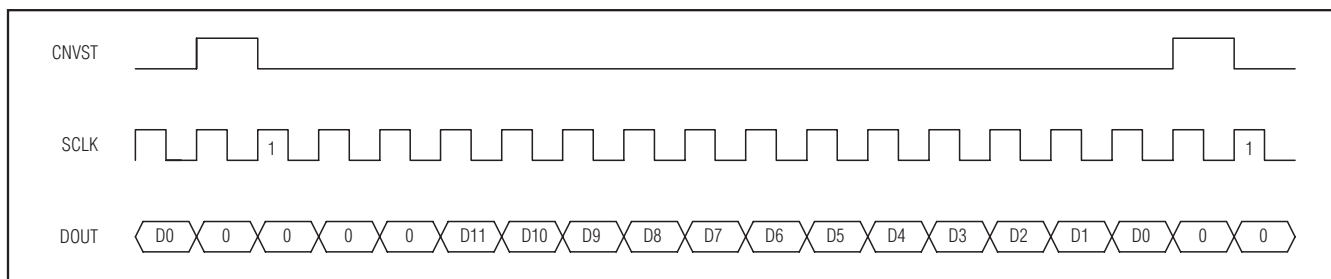
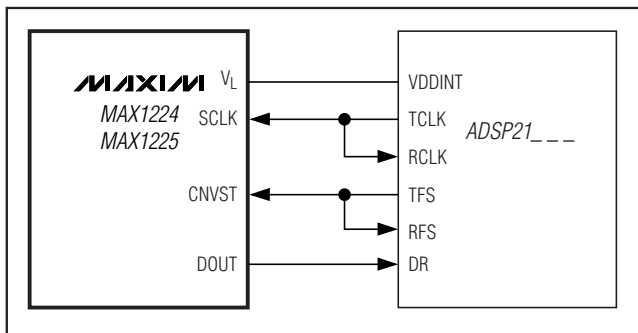

Figure 17. DSP Interface—Continuous Conversion
Figure 19. Interfacing to the ADSP21\_ \_ \_
The MAX1224/MAX1225 can also be connected to the TMS320C54\_ by using the data transmit (DX) pin to drive CNVST and the CLKX generated internally to drive SCLK. A pullup resistor is required on the CNVST signal to keep it high when DX goes high impedance and 0001hex should be written to the DXR continuously for continuous conversions. The power-down modes may be entered by writing 00FFhex to the DXR (see Figures 17 and 18).
The MAX1224/MAX1225 can be directly connected to the ADSP21\_ \_ \_ family of DSPs from Analog Devices, Inc. Figure 19 shows the direct connection of the MAX1224/MAX1225 to the ADSP21\_ \_ \_ . There are two modes of operation that can be programmed to interface with the MAX1224/MAX1225. For continuous conversions, idle CNVST low and pulse it high for one clock cycle during the LSB of the previous transmitted word. The ADSP21\_ \_ \_ STCTL and SRCTL registers should be configured for early framing (LAFR = 0) and for an active-high frame (LTFS = 0, LRFS = 0) signal. In this mode, the data-independent frame-sync bit (DITFS = 1) can be selected to eliminate the need for writing to the transmit-data register more than once. For single conversions, idle CNVST high and pulse it low for the entire conversion. The ADSP21\_ \_ \_ STCTL and SRCTL registers should be configured for late framing (LAFR = 1) and for an active-low frame (LTFS = 1, LRFS = 1) signal. This is also the best way to enter the power-down modes by setting the word length to 8 bits (SLEN = 1001). Connect the  $V_L$  pin to the ADSP21\_ \_ \_ supply voltage when the MAX1224/MAX1225 are operating with a supply voltage higher than the DSP supply voltage (see Figures 17 and 18).